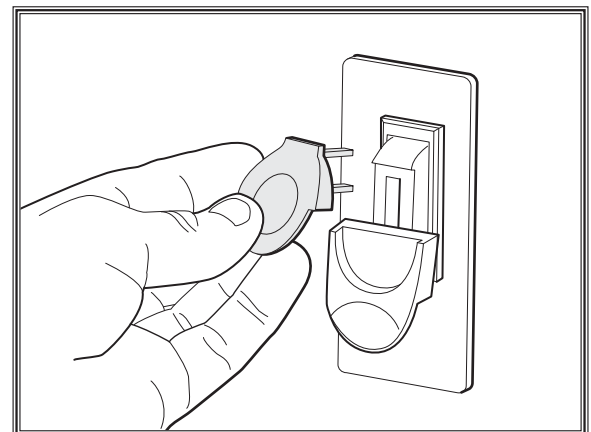

Figure 12. Removing switch key from paddle switch.
7. Remove switch disabling key (see **Figure 12**).